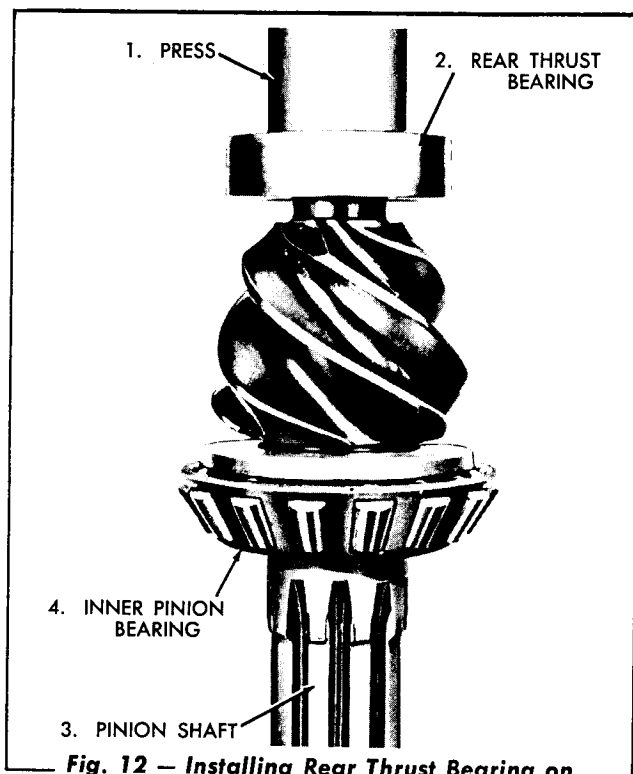

Fig. 12 — Installing Rear Thrust Bearing on Pinion Shaft
1. Press the rear thrust bearing firmly against the shoulder on the pinion shaft, using a suitable sleeve that will bear only on the bearing inner race (Fig. 12).